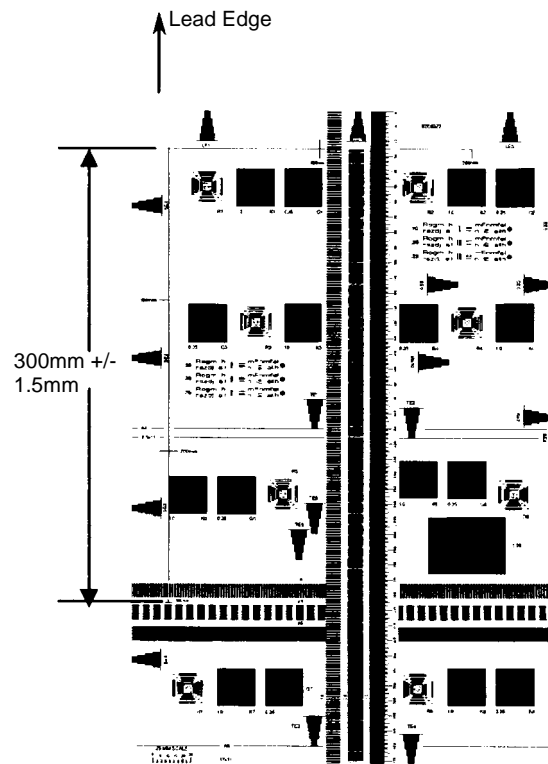

Figure 2 Checking Vertical Magnification
4. **Check vertical magnification (Figure 2):**